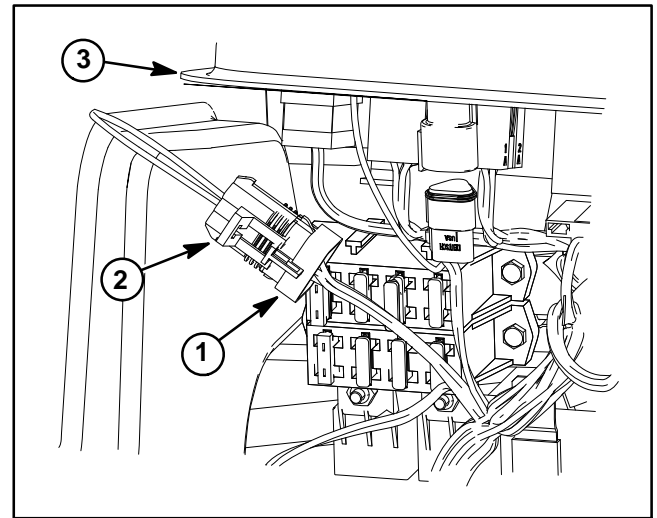

Figure 11
2. Remove cover from control panel to allow access to wire harness loop-back connector. Locate wire harness and loop-back connector (Fig. 11). Carefully unplug loop-back connector from wire harness connector.